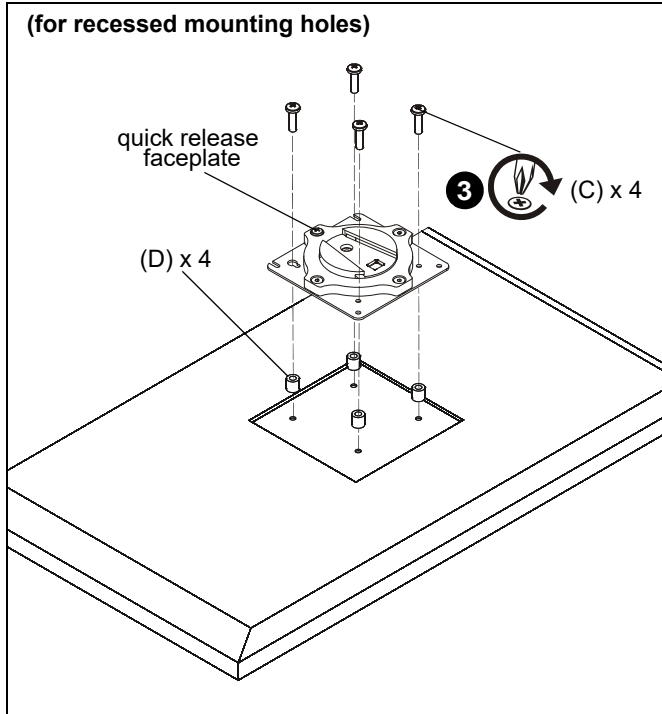

Figure 9
- Place four spacers (D) on top of mounting holes on back of display. (See Figure 9)
- Using Phillips screwdriver, carefully install four M4x20mm screws (C) through corresponding holes on faceplate, spacers (D) and into the mounting holes on the display. (See Figure 9)